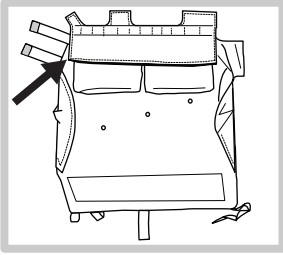

Figure 1
1. Move the flap so it is covering the inner pockets but not fully extended over the main/outer flap (Figure 1).